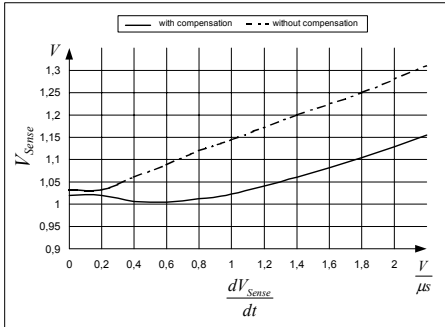

Figure 13 Overcurrent Shutdown
E.g. $I_{peak} = 0.5A$ with $R_{Sense} = 2$. Without Propagation Delay Compensation the current sense threshold is set to a static voltage level $V_{csth} = 1V$. A current ramp of $dI/dt = 0.4A/\mu s$, that means $dV_{Sense}/dt = 0.8V/\mu s$, and a propagation delay time of i.e. $t_{Propagation\ Delay} = 180ns$ leads then to an I_{peak} overshoot of 12%. By means of propagation delay compensation the overshoot is only about 2% (see Figure 13).